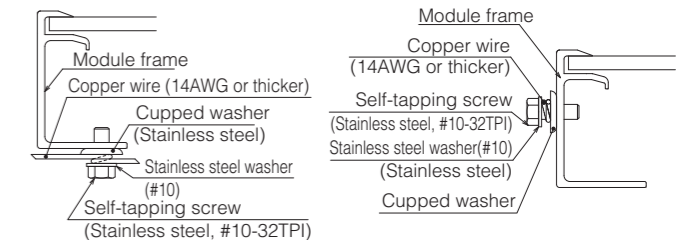

Fig. 3 Grounding method #1
- As shown in the figure 3, the copper wire should be compressed by the screw head.